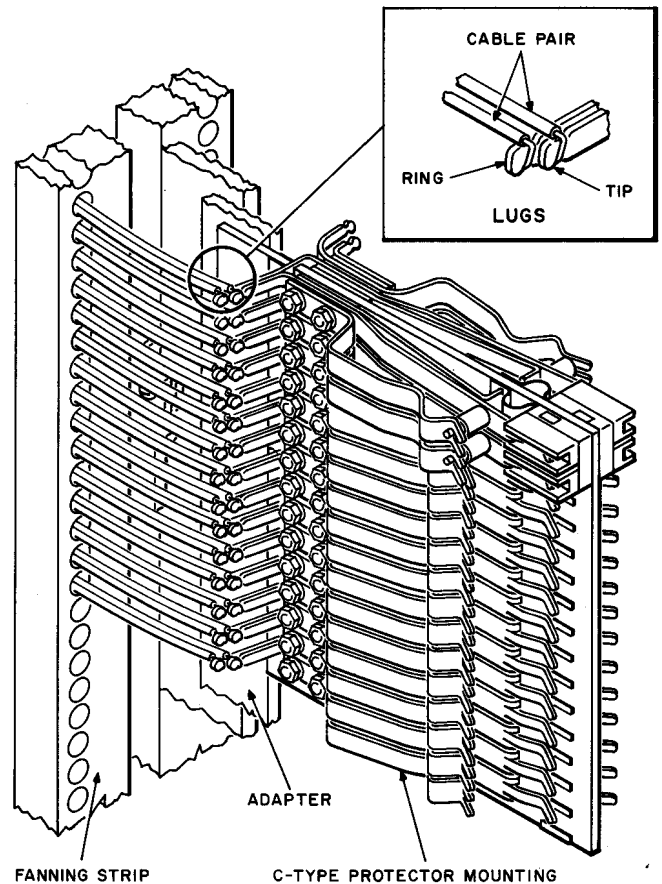
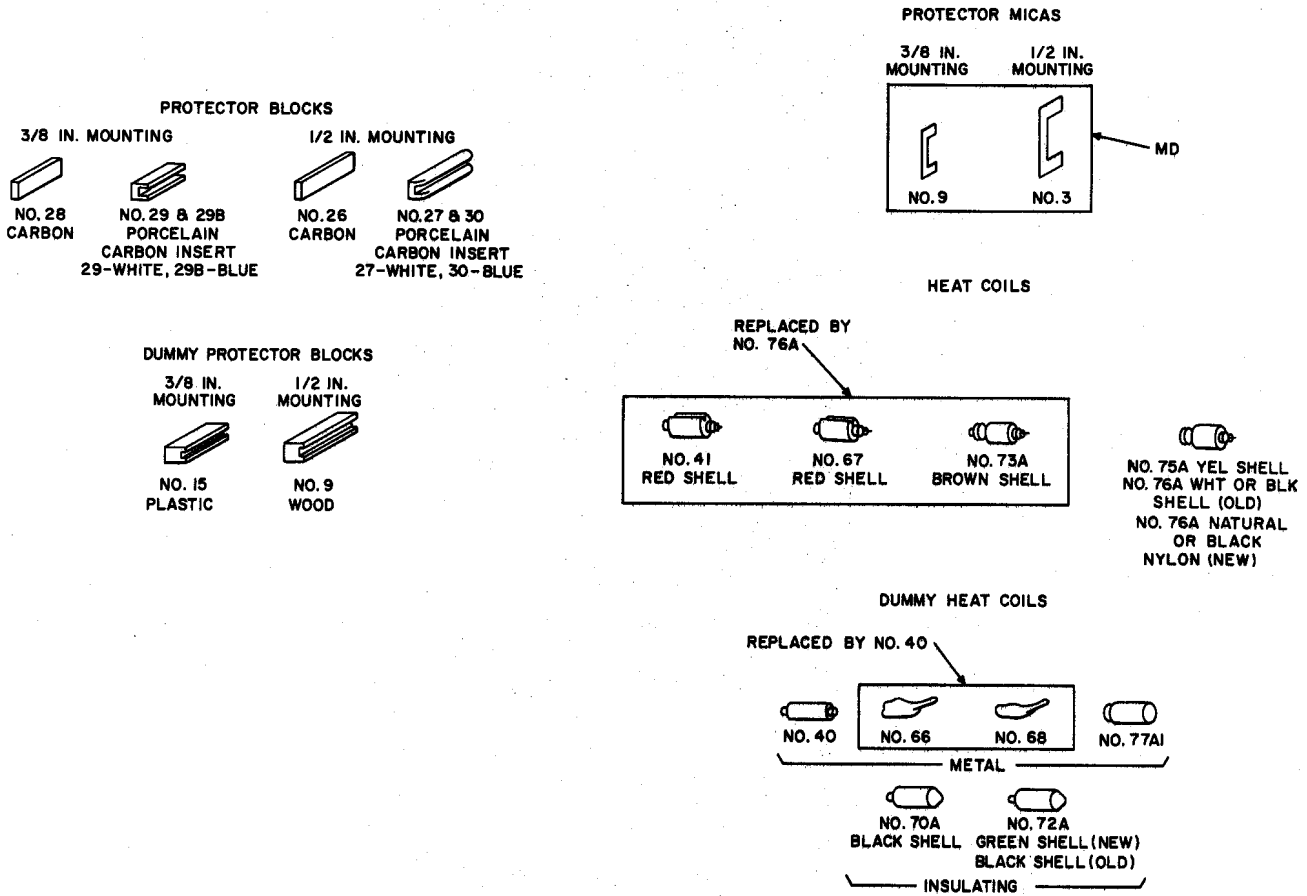

Fig. 1—C-Type Protector Mounting
Fig. 10—Types of Protector Blocks and Heat Coils
2.01 The C-type protector mounting is shown in Fig. 1.
2.07 Figures 1 through 8 show the makeup of the usual types of B-type frame protector mountings. Figure 10 shows the various types of protector blocks and heat coils, including some early types still in use. Table A lists the standard types of heat coils and protector blocks and the corresponding older types.